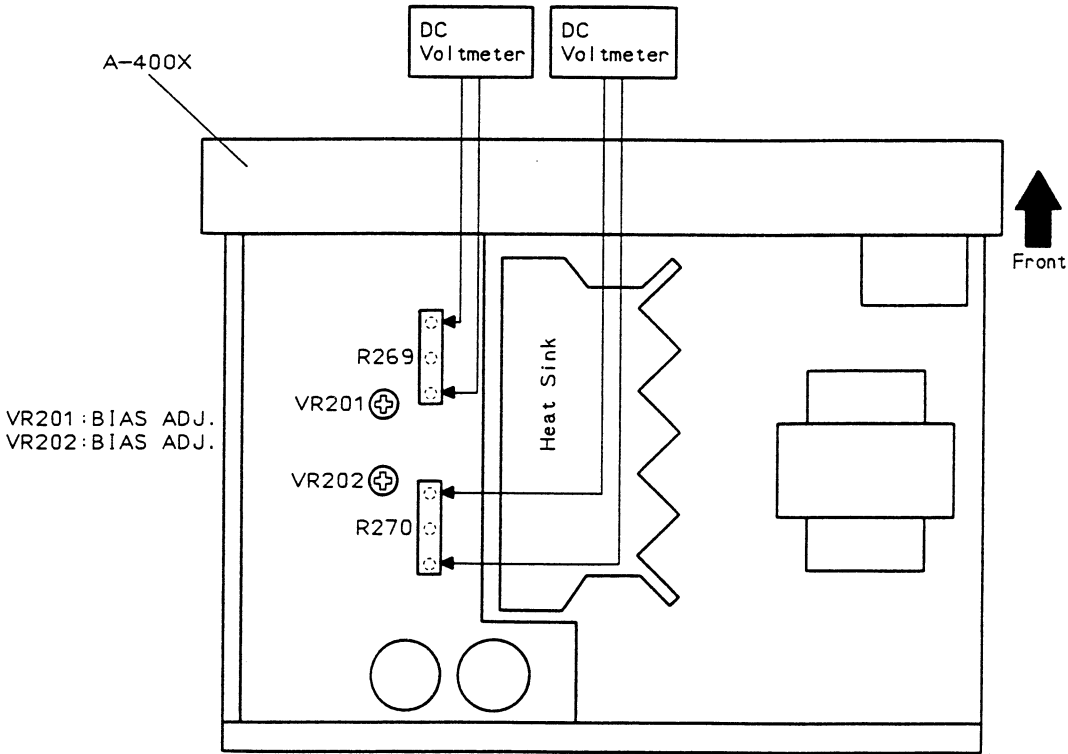

Fig. 6-1 Adjustment Drawing
- 1. Connect wire as shown in Fig 6-1.